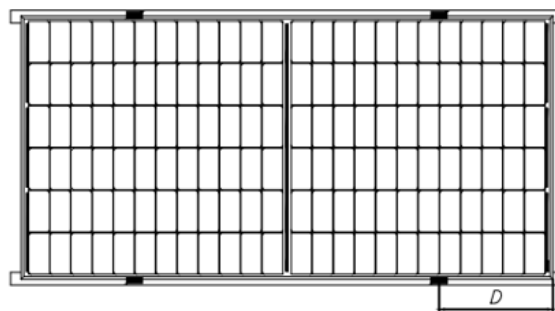

Fig.3: Rails overlapping the long side frame.
When double-sided PV modules are installed, each PV module must be fixed with at least 4 presses, as shown in Figures 3、4、5.
⑧ For the installation method shown in Fig. 3, the module needs to be fixed with professional clamps (as shown in Fig. 9), and the overlap between the C side of the module and the rail should be ≥ 15 mm. Energizer Solar's limited warranty will be void if improper clamps or improper installation is used.